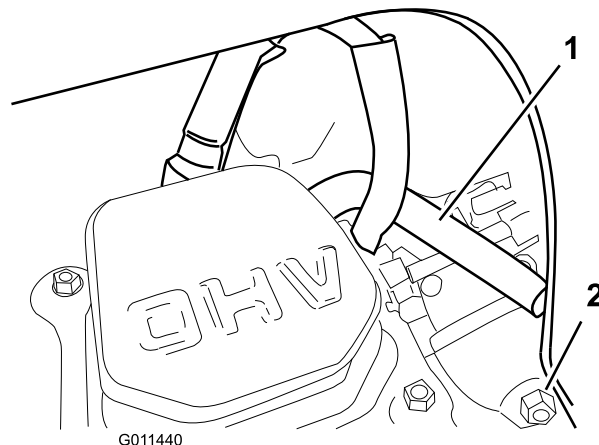

Figure 37
Note: Ensure that the breather tube is routed above the spark plug wire as shown in Figure 37.
6. Drain the fuel in the carburetor through the carburetor drain bolt (Figure 37) into an approved gasoline container.